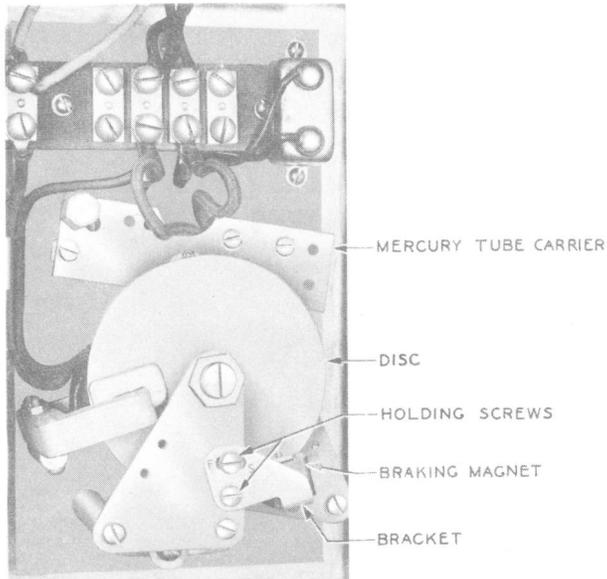
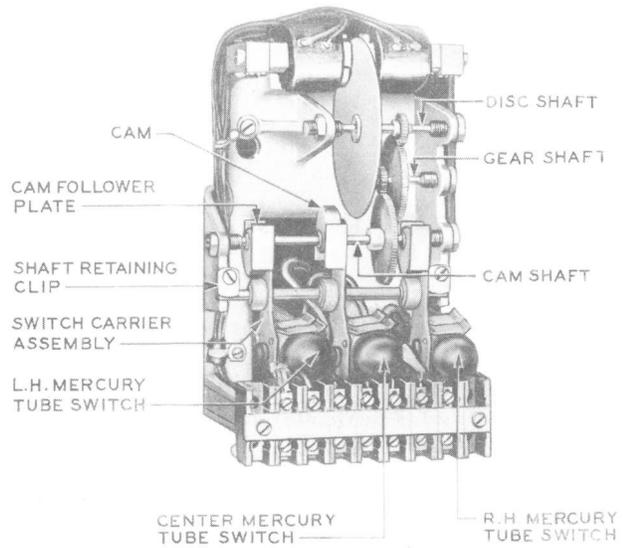
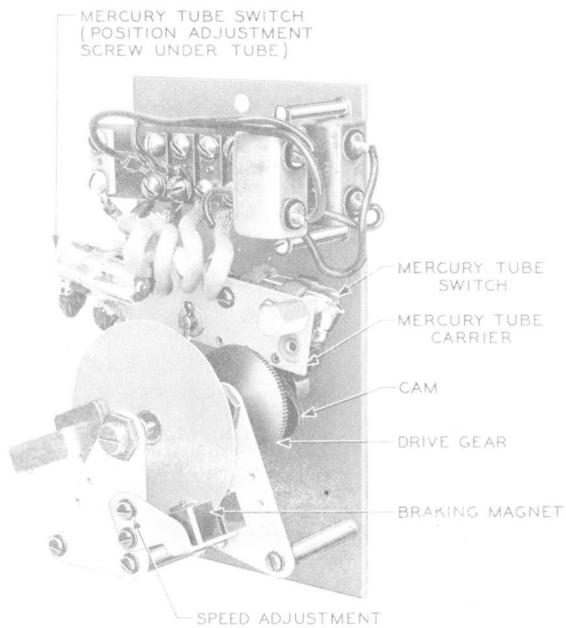
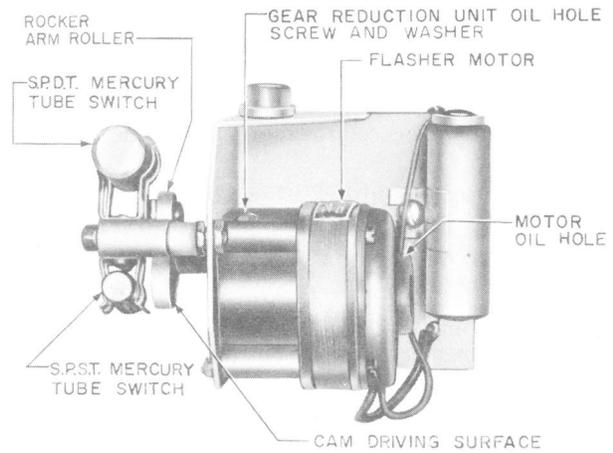

Fig. 3—Single-Circuit Flashing Switch
Fig. 5—3-Circuit Flashing Switch (Crouse-Hinds Company)
Fig. 4—2-Circuit Flashing Switch
Fig. 6—3-Circuit Flashing Switch (Hughey & Phillips Incorporated)
1.07 The Crouse-Hinds Company 46777AT single-circuit flashing switch is shown in Fig. 3; the 46779AT 2-circuit flashing switch is shown in Fig. 4; the TL1941 3-circuit flashing switch is shown in Fig. 5; and the Hughey & Phillips, Incorporated 3-circuit flashing switch is shown in Fig. 6. The switches contain a motor which, through appropriate gearing, drives a cam that rocks a mercury tube carrier up and down, thereby operating the mercury tube switch or switches on and off as the motor rotates.
(a) *Single- and 2-Circuit Switches (Fig. 3 and 4)*
Note: Make or break can be determined by observation of series pilot lamps in the associated circuit. For proper operation, flashing switch mounting panels should be mounted plumb. Unless positioned approximately as shown in Fig. 4, the four flexible leads running from the mercury tube carrier may prevent the carrier from completing its full motion. Rearrange leads as necessary.
(b) *3-Circuit Switch (Fig. 5)*
(c) *3-Circuit Switch (Fig. 6)*
- (1) To lubricate the motor and the gear reduction unit, apply oil to the motor oil hole; and on the gear reduction unit, remove the round head screw and washer (Fig. 6) and apply oil in the screw hole. Apply a thin coat of cam lubricant **KS-7471** to the cam driving surface.
- (2) No provisions are made for the adjustment of the tilt switches. Replacement tilt switches are premarked for installation in a properly level unit.